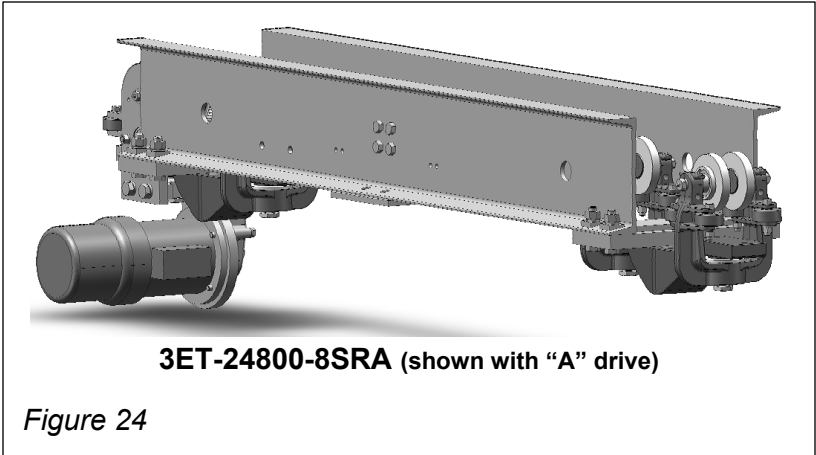

Figure 24
- 3ET-24800-8 Figure 24
For general assembly of either the 3ET-24800 or 3ET-28000 end trucks, see Figures 24 and 25.